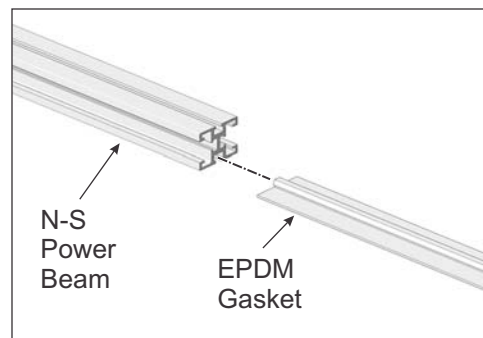

Figure 3-1: Inserting EPDM Gasket into N-S Power Beam
- A. Matching the extrusion profiles, insert the EPDM gasket into the N-S Power Beams. (See Figure 3-1)